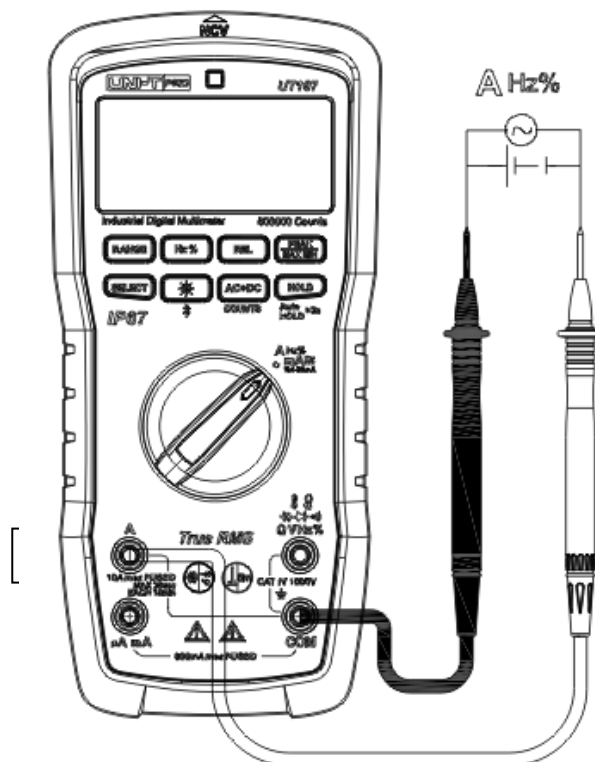

Figure 14
11. Mesure AC/DC A (Figure 14)